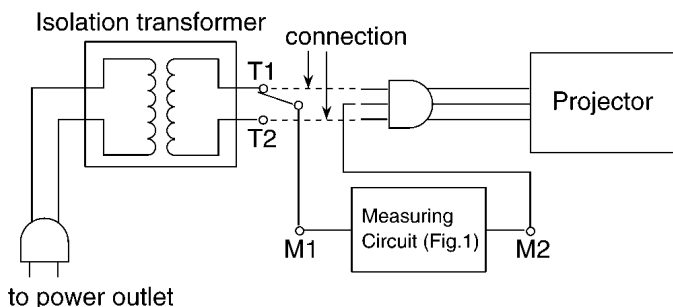

Fig. 2
2. Assemble the circuit as shown in Fig. 2. Plug the power
3. Connect M1 to T1 according to Fig. 2 and measure the voltage.